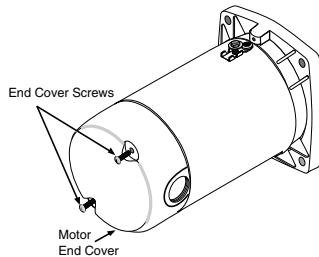

Figure 6: Removing Motor End Cover
7. Connect current carrying conductors to terminals L₁ and L₂ under motor canopy. When replacing motor, check wiring diagram on motor nameplate against Figure 6. If the motor wiring diagram does not match either diagram in Figure 6, follow the diagram on the motor.
- IMPORTANT:** 115/230 Volt single phase models are shipped from factory with motor wired for 230 volts. If power supply is 115 volts, remove motor canopy and reconnect motor as shown in Figure 6. Do not try to run motor as received on 115 volt current.